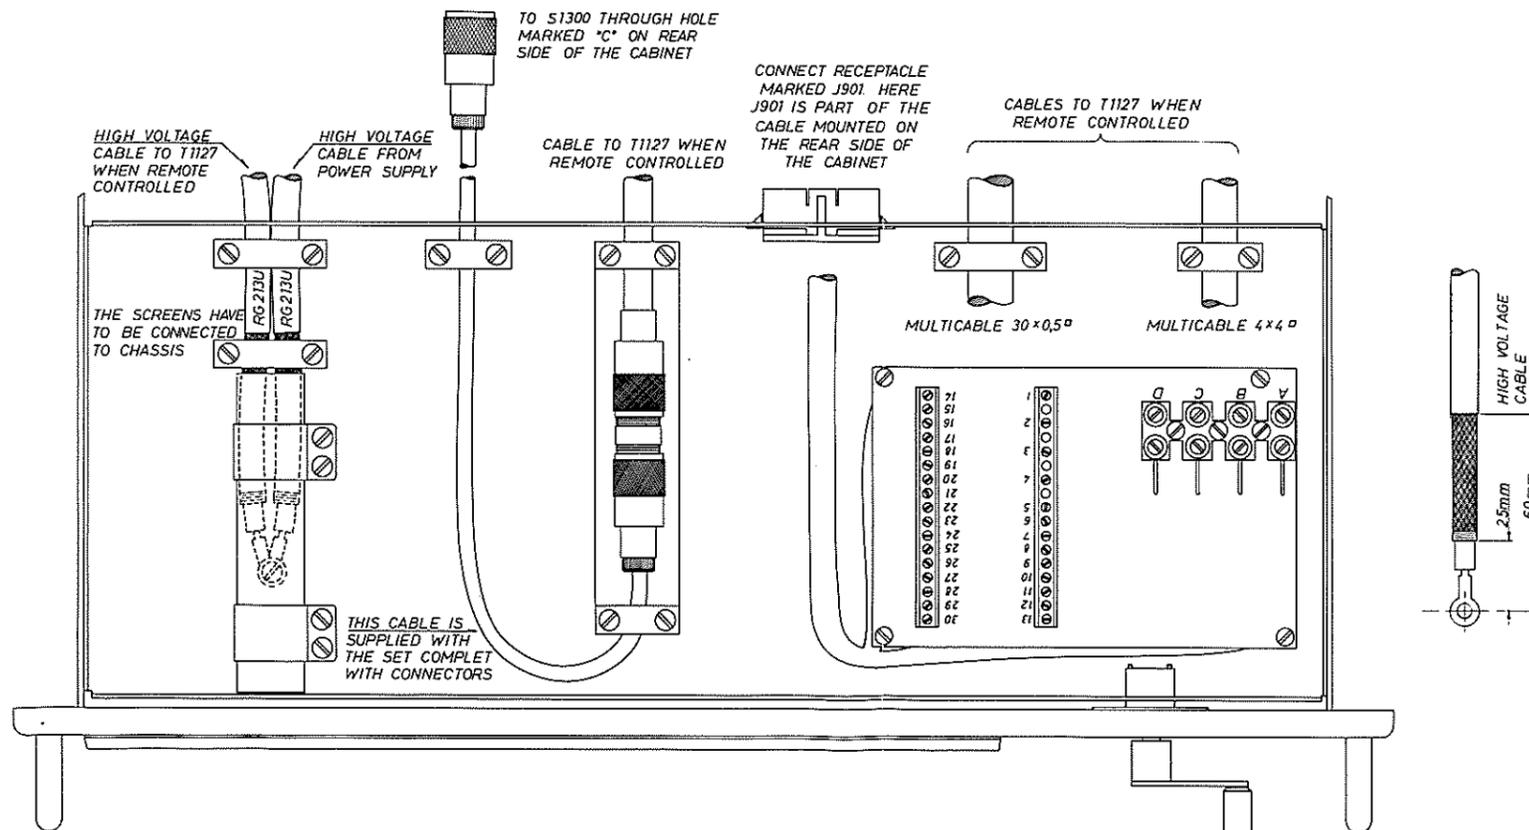

FIG. 7.
10. Mount the cables in H1200 as shown in fig. 7.
13. Mount the cables in H1200 as shown in fig. 7.
3. Mount cables, earthband etc. on the mounting plate as shown in fig. 7.
4. Place the cabinet on the mounting plate. Before the transmitter is put into place, the cables must be pulled through the square holes on the rear side of the cabinet as shown in fig. 7.